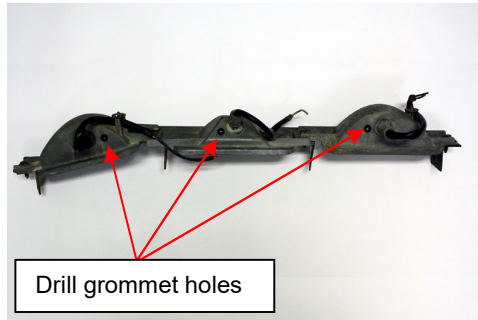

Figure 1
2. OPTIONAL: If sequential patterns are desired, for each taillight housing, drill 1 – 3/16" hole on the bottom surface of the taillight housing. (See Figure 1) The exact location of each hole is not critical. Then install provided rubber grommet into the drilled hole. One method to simplify installation is to pinch grommet, insert protruding edge into the hole, then use a small flat blade screwdriver to push/work the remaining edge through the hole.